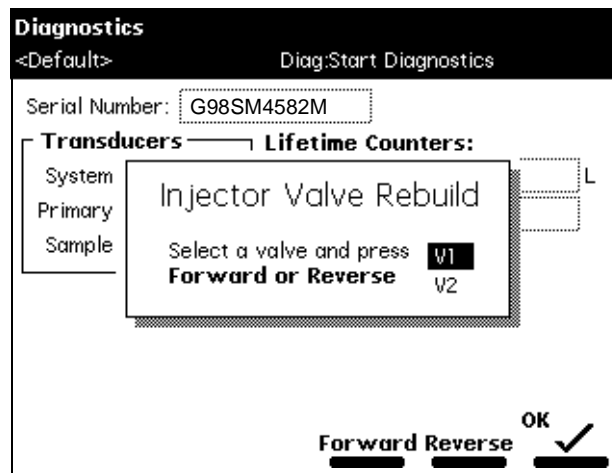

Figure 8-22 Rebuilding the Injector Valves
1. Select **Rebuild Injector Valves** in the Other Diagnostics screen, then press **OK**. The Injector Valve Rebuild dialog box appears (Figure 8-22).